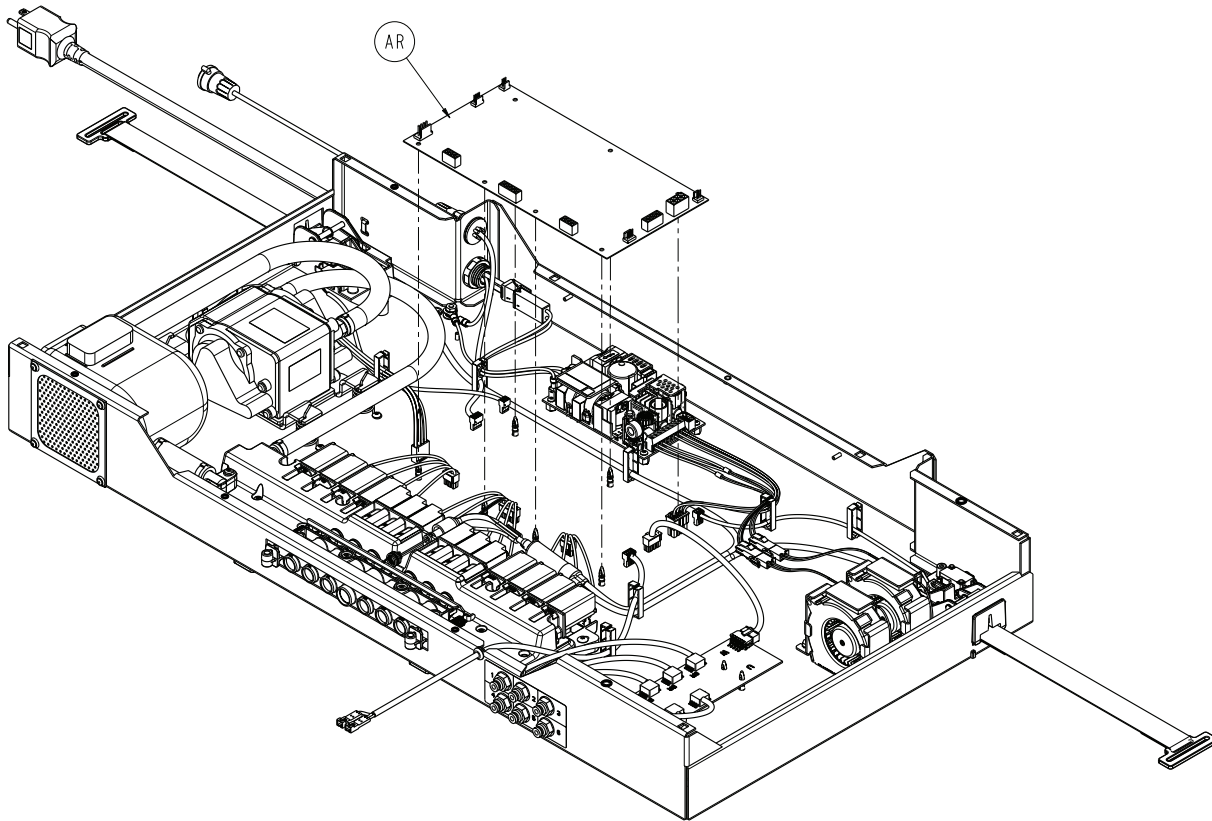

Figure 1-21: Main board
3. Remove all wiring connections from the main board (AR) (Figure 1-21 on page 1-46).